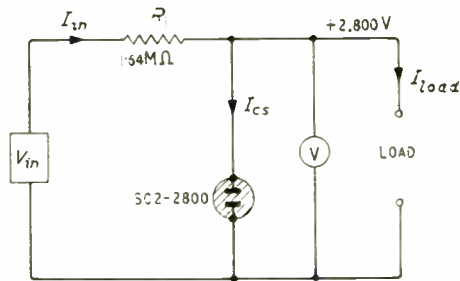

Fig. 1. Simple corona stabilizer circuit
The first and simplest of the example circuits is illustrated in Fig. 1. Table 1 shows the design data for 7% high and 7% low mains, at no-load (NL) and full-load (FL) output current. The voltage and current symbols correspond to those in the figure.